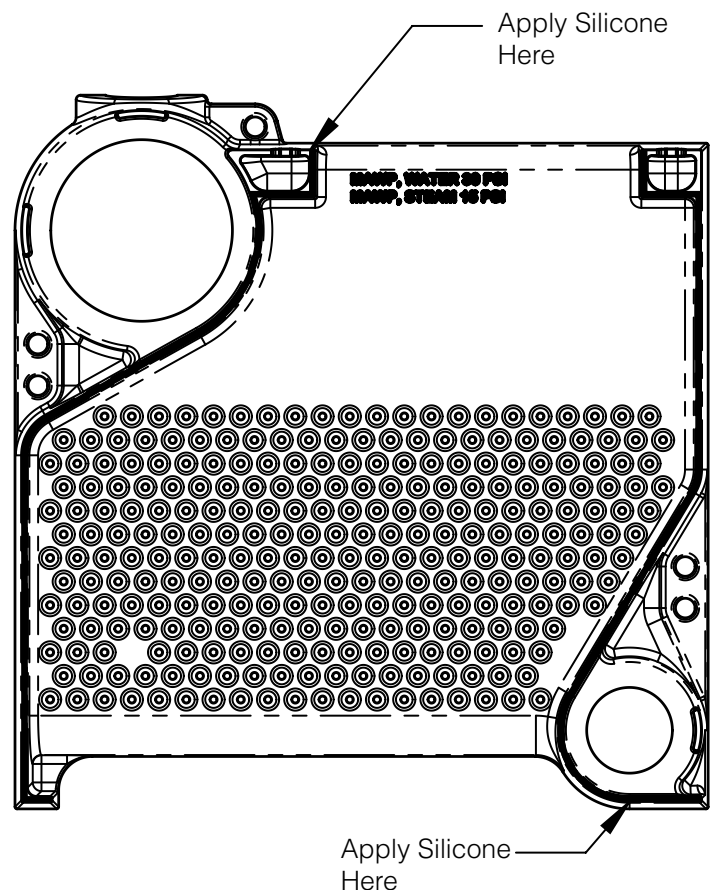

Figure 5-1: Assembly Section Flue Way Joint
See Figures 5-1, 5-2, 5-3 and 3-2 for References.
2. Screw (2) 5/16-18 hex head bolts, **Item 1**, into holes in base.
8. Apply provided SIL-BOND RTV 6500 to flue way joint. See Figure 5-1.
3. Verify the (4) drip shields, **Item 1**, are in place, and remove tape used to hold the drip shields in place during shipment.
4. Screw (2) 5/16-18 hex head bolts, **Item 2**, into holes in base.
10. Apply provided SIL-BOND RTV 6500 to flue way joint. See Figure 5-1.